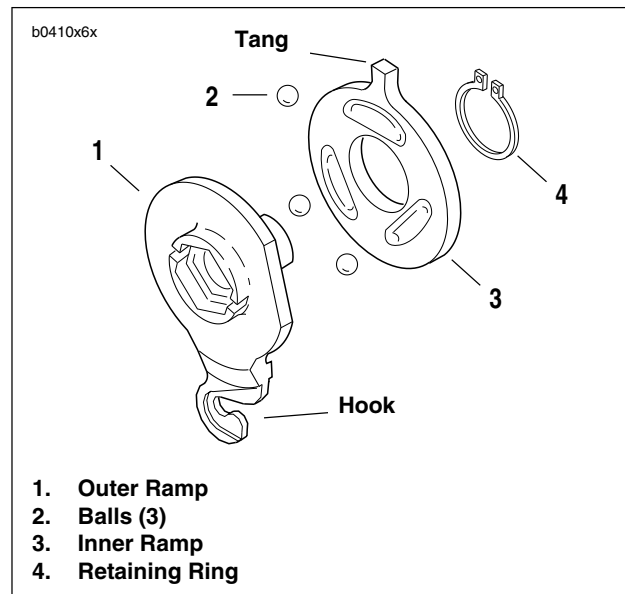
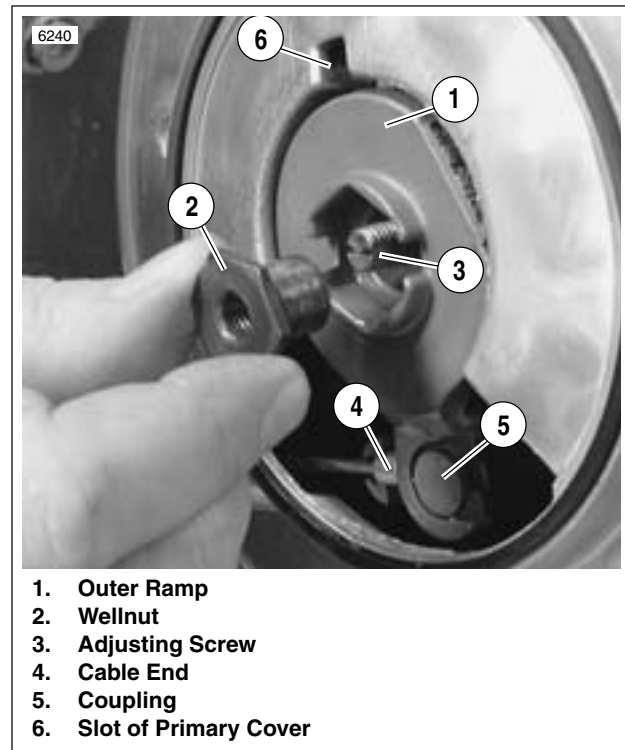

Figure 6-9. Inner and Outer Ramp
Figure 6-10. Nut and Outer Ramp
1. See Figure 6-9. Assemble inner and outer ramp.
- a. Apply multi-purpose grease to balls (2) and ramps (1, 3).
- b. Insert balls in sockets of outer ramp (1).
- c. Install inner ramp (3) on hub of outer ramp (1) with tang 180° from hook of outer ramp.
- d. Install **new** retaining ring (4) in groove of outer ramp hub.
2. See Figure 6-10. Install ramp assembly.
- a. Fit coupling (5) over cable end (4) with rounded side inboard, the ramp connector button outboard.
- c. Rotate assembly counterclockwise until tang on inner ramp fits in slot of primary cover (6).
- a. Thread wellnut (2) on adjusting screw (3) until slot of screw is accessible with a screwdriver.
- b. Fit nut hex into recess of outer ramp (1).